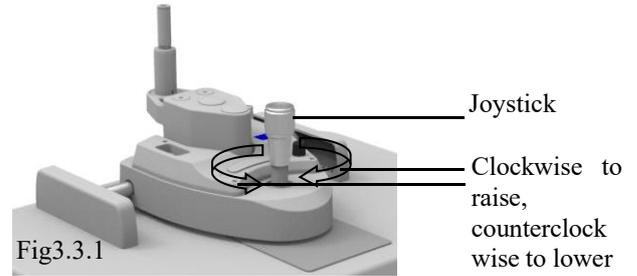

Fig3.3.1
1. Roughly Adjustment in the horizontal direction with the joystick in the upright position (see Figure 3.3.1), move the base back and forth to move the microscope in a horizontal direction to roughly align the target.
2. Adjustment in the vertical direction. Rotate the joystick to adjust the height of the microscope to align it with the target. Rotate clockwise to lower the microscope; counterclockwise to raise the microscope (see Figure 3.3.1).
3. Slightly adjustment in the horizontal direction. Tilt the joystick forward and backward to make the microscope move slightly in the horizontal direction. Observe through the eyepiece to accurately align the target to obtain a clear observation (see Figure 3.3.1).